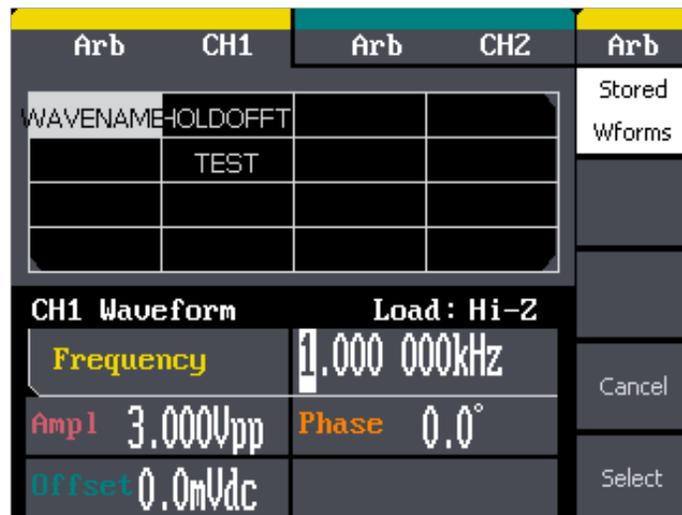

Figure 7: After executing the Send Wave command in the WaveStation software, the WaveStation instrument screen shows the file ready for opening
8. On the WaveStation, ensure that the signal sent to the instrument is highlighted (it should be by default) and touch Select as shown in Figure 7.